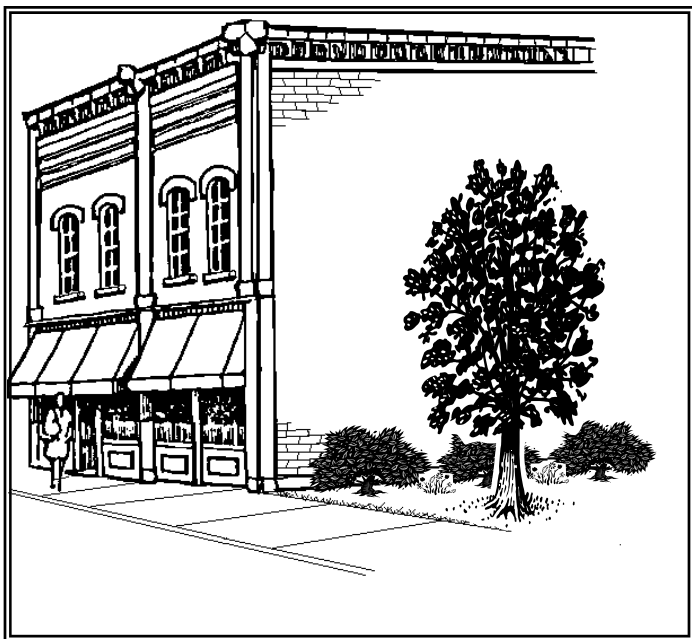

Figure 19, Plantings Used to Break Up Blank Wall
- ◆ **Wall Expenses.** Large expanses of blank wall can be broken up with foundation plantings, as earlier described, intermediate sized deciduous trees, and man-made elements such as trellises (see Figure 19).